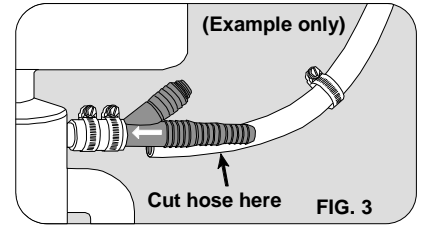

FIG. 3
The ET116-002 is designed to be used downstream of an approved airgap faucet and dishwasher airgap (when installed in conjunction with a dishwasher). Most dishwashers have a built-in check valve, but these often fail. Some States require the installation of a manufactured dishwasher airgap, while other states permit the drain hose to loop up from the dishwasher to the underside of the sink before descending to the disposal (See Fig. 3). Do not install a ET116-002 (with dishwasher) in the absence of one of these types of airgaps – use a ET109-002 or ET112-002.
7. Lift the tail of adapter slightly higher than horizontal, and position semi-taut hose behind it. Take a measurement on the hose against the selected barb. (See Fig. 3)
8. Cut off excess hose squarely with sharp knife. Reuse original spring or hose type clamp by sliding loosely over hose. (See Fig. 3)